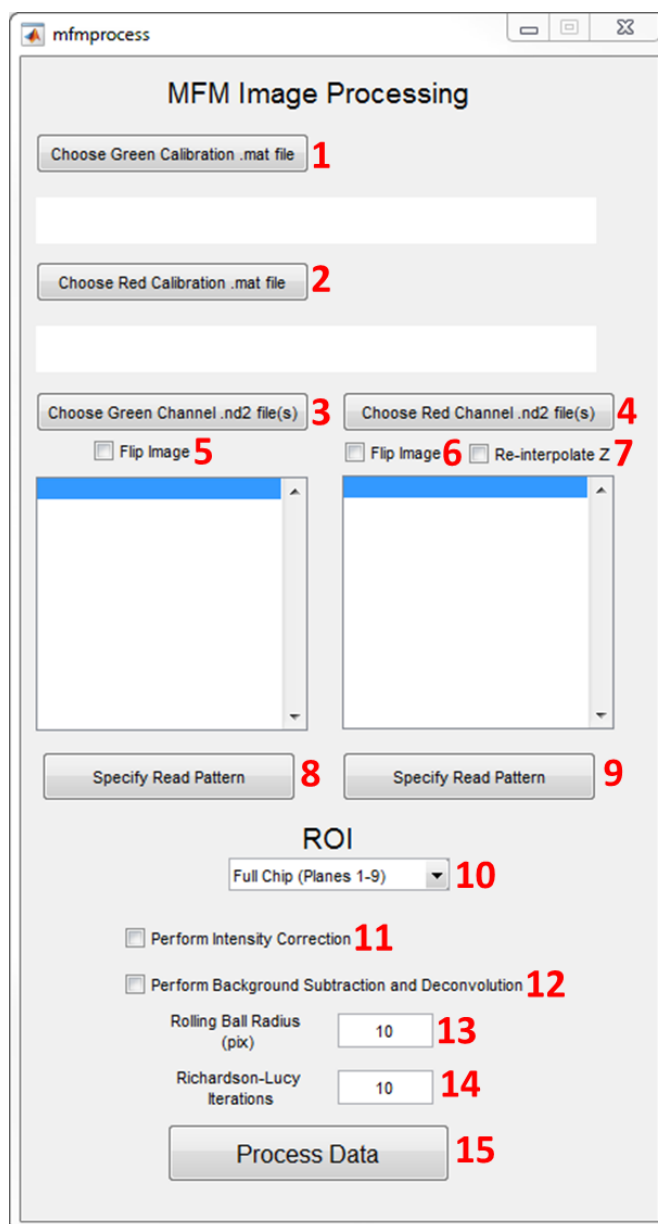

Figure 7. MFM Image Processing window. The red numbers correspond to the detailed steps outlined below.
10. If preprocess has been selected, first specify a background subtraction rolling ball radius, in pixel units. This is equivalent to parameter 10 in figure 7, but without the deconvolution. Smaller values will emphasize smaller features (such as diffraction limited spots).